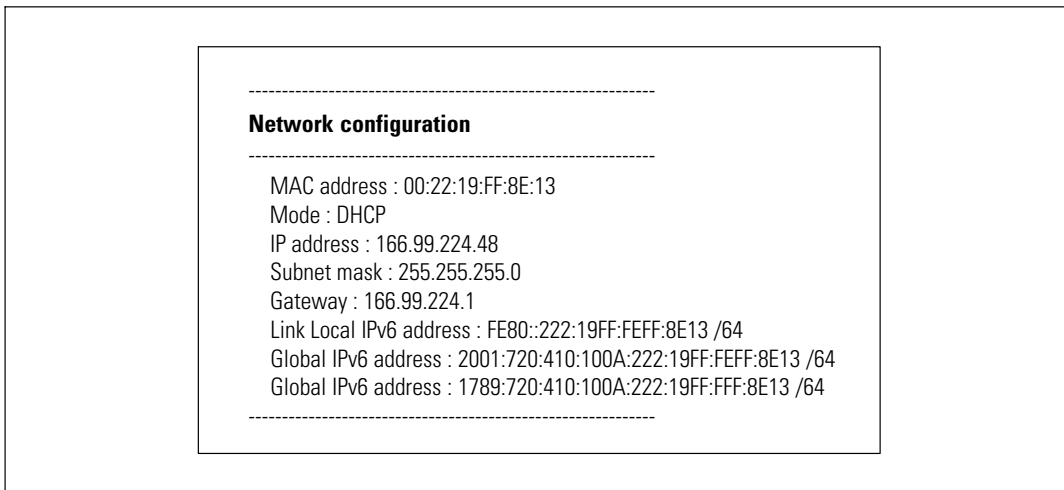

Figure 10. Network Configuration Menu
- 2 Type **1** and press **Enter**. The card displays the settings supplied by the server (see Figure 10).